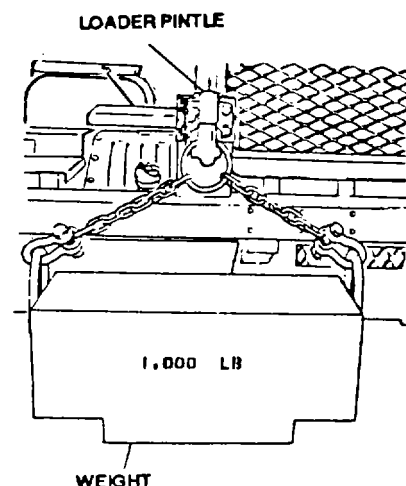

Figure 6-17. Weight Installed at Back of Loader.
(3) Attach 1000-pound weight to the tow pintle hook (figure 6-17).